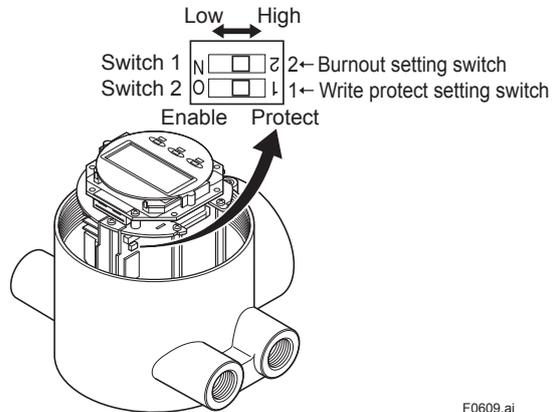

Figure 6.3.2 Switch Configuration for Integral Flowmeter and AXFA14 Remote Converter
By setting the write protect function to “Protect” it is possible to prevent the overwriting of parameters. Write protection can be carried out using either the hardware switch on the CPU board (i.e., Switch 2) (See Figure 6.3.2) or software parameter settings. If either of these items is set to “Protect,” the overwriting of parameters will be prohibited.
- (3) Set the switches. There are two switches (See Figure 6.3.2). One is for burnout setting and the other for write protect setting, located adjacent to each other.